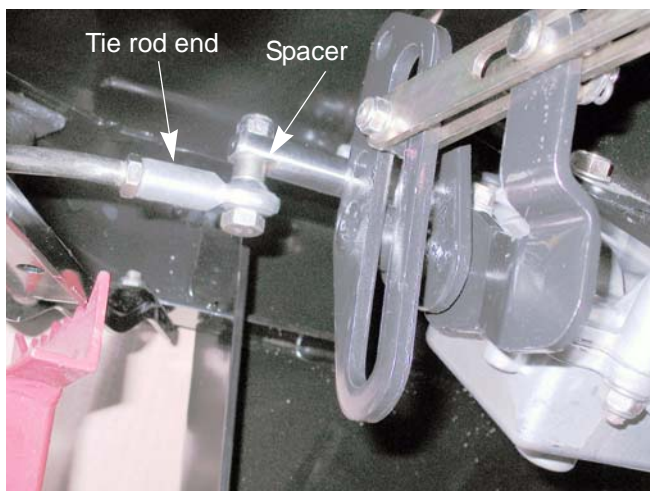

Figure 6.92
6. Disconnect the tie rod end from the steering gearbox using a pair of 1/2" wrenches. See Figure 6.92.